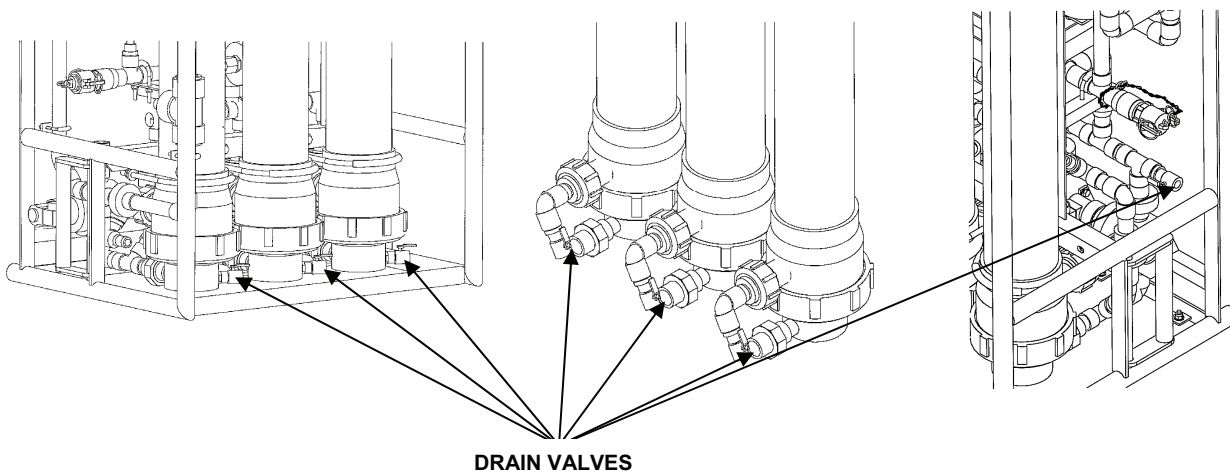

Figure 20. UF Module Drain Valves.
5. Ensure that all seven drain valves on the UF module are closed. See Figure 5 and Figure 20.